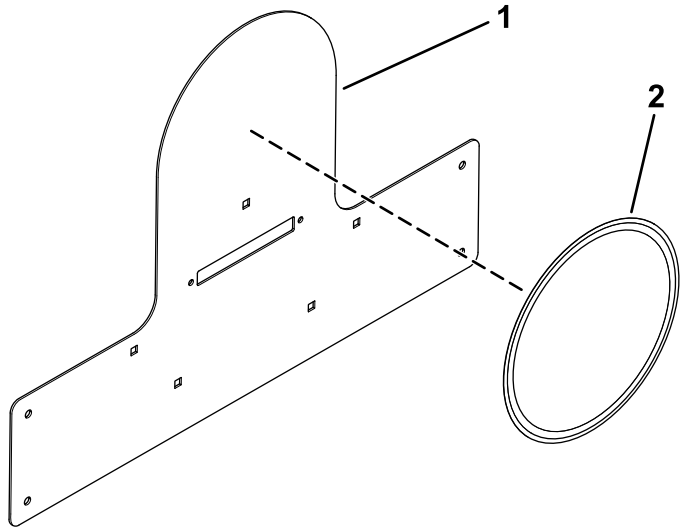

Figure 25
- Apply the appropriate speed decal to the speed-plate mount (Figure 25).